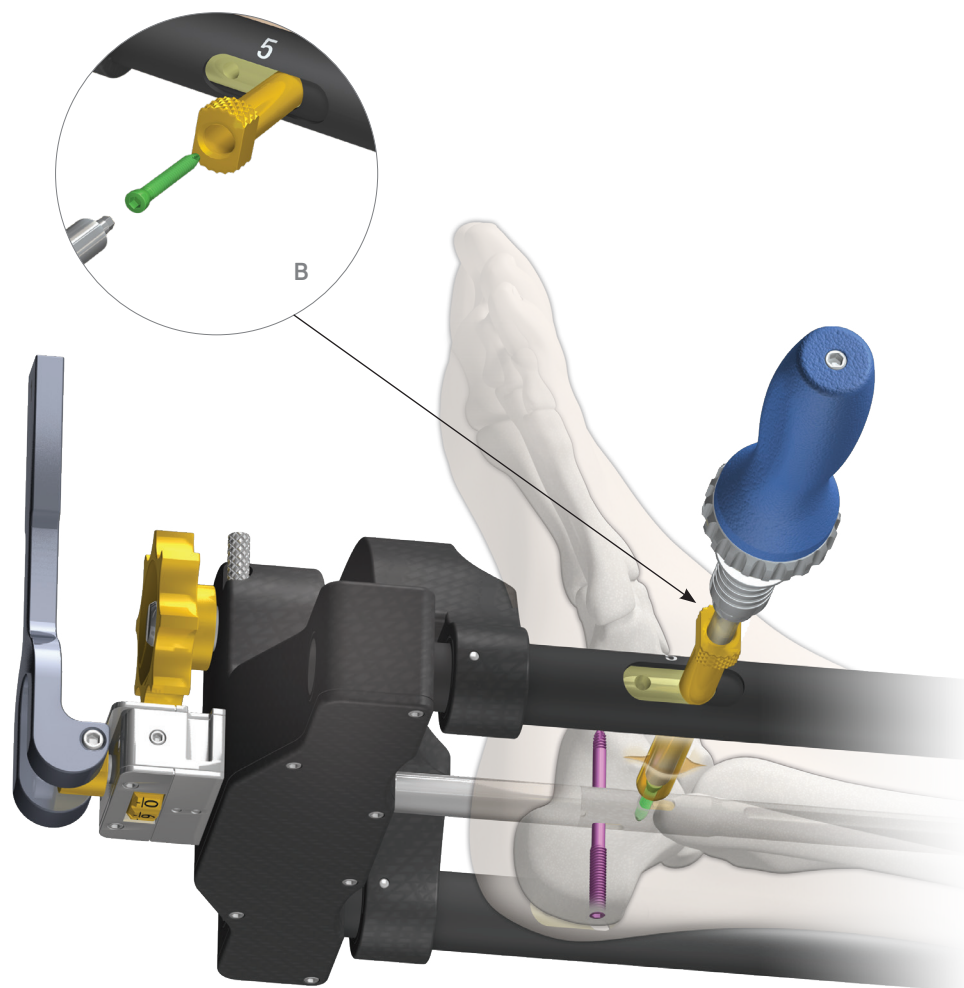

FIGURE 25
Remove the 4 mm Drill Guide from the Guide Sleeve (B). Insert the Cortical Screw through the 8 mm Guide Sleeve using the Wide 3.5 mm Hex Driver as described in Step 11 (FIGURE 25). Use fluoroscopy to determine when desired depth is reached and the screw is fully seated.